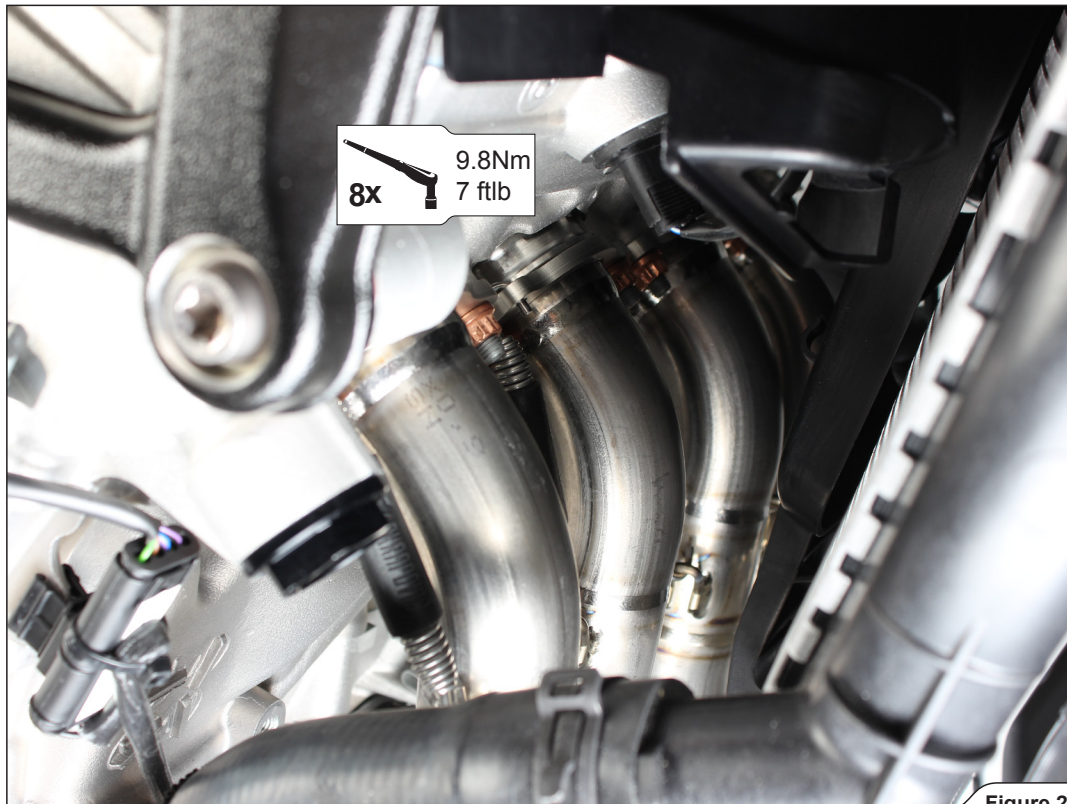

Figure 29
3. Insert the headers into the sleeves, attach the springs and tighten the flanges to specified torque (Figure 29).